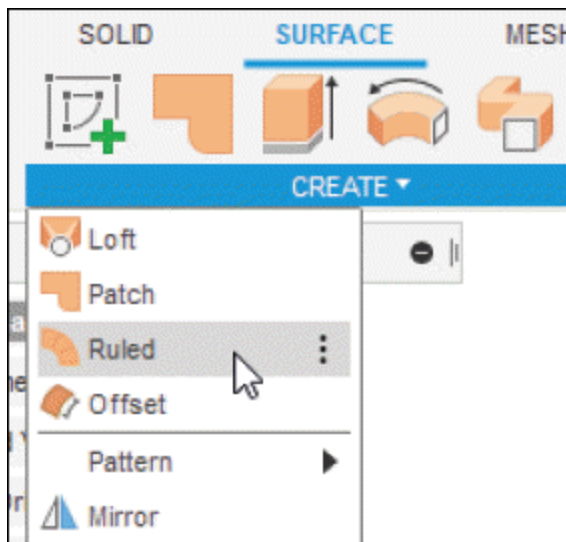
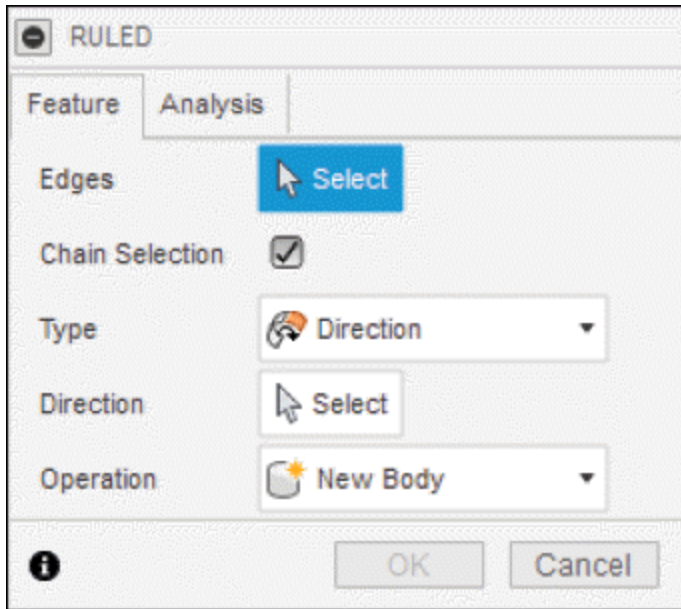

Figure-9. Ruled tool
Figure-10. RULED dialog box
- Click on the **Ruled** tool of **CREATE** drop-down from **Toolbar**; refer to Figure-9. The **RULED** dialog box will be displayed; refer to Figure-10.